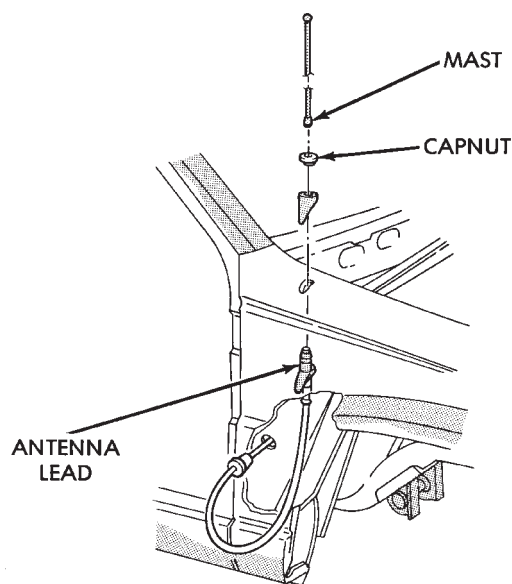

Fig. 17 Antenna Body and Cable Remove/Install
(5) Lower the antenna assembly through the fender far enough to gain access to the antenna body (Fig. 17).